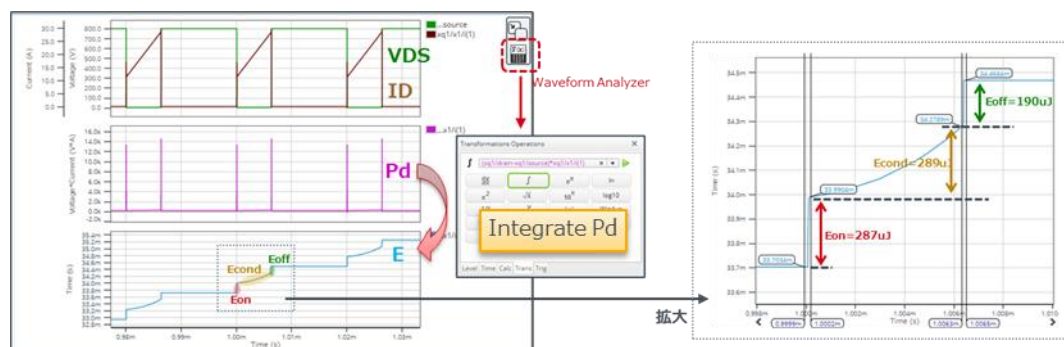

Figure 7. MOSFET waveforms of DC-DC converter circuit
Figure 7 shows the simulation waveforms of VDS, ID, the loss (Pd), and the energy (E), which is the time integration of loss, during the MOSFET switching.